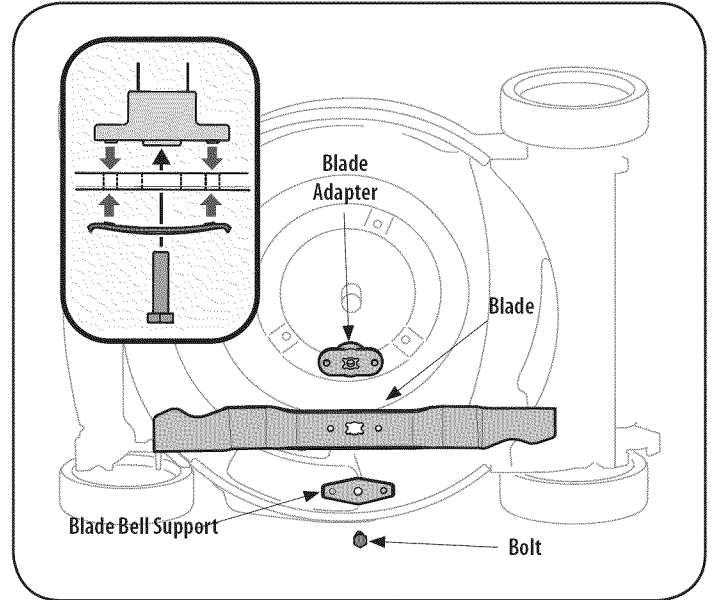

Figure 12
2. Remove the bolt and the blade bell support which hold the blade and the blade adapter to the engine crankshaft. See Figure 12.
5. Lubricate the engine crankshaft and the inner surface of the blade adapter with light oil. Slide the blade adapter onto the engine crankshaft. Place the blade on the adapter such that the side of the blade marked "Bottom" (or with part number) faces the ground when the mower is in the operating position. Make sure that the blade is aligned and seated on the blade adapter flanges. See Figure 12 inset.